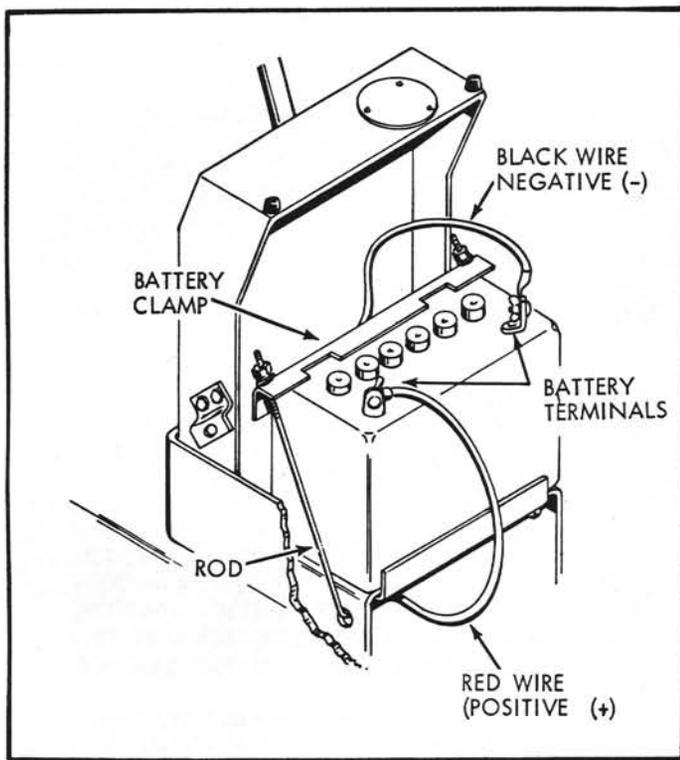

Figure 15.
7. Insert filler caps into filler holes and place battery on shelf in front of the instrument panel. **BATTERY TERMINALS MUST BE TOWARD FRONT OF TRACTOR** (See Fig. 15).
9. Next, connect the two battery cables to the battery terminals (See Fig. 15). The cable that is attached to the tractor chassis is the ground cable (black in color) and is connected to the negative (-) battery terminal in the following manner: Remove the wing nut from the carriage bolt and place cable eye on threads of the bolt. Secure cable eye in place with the wing nut just removed.